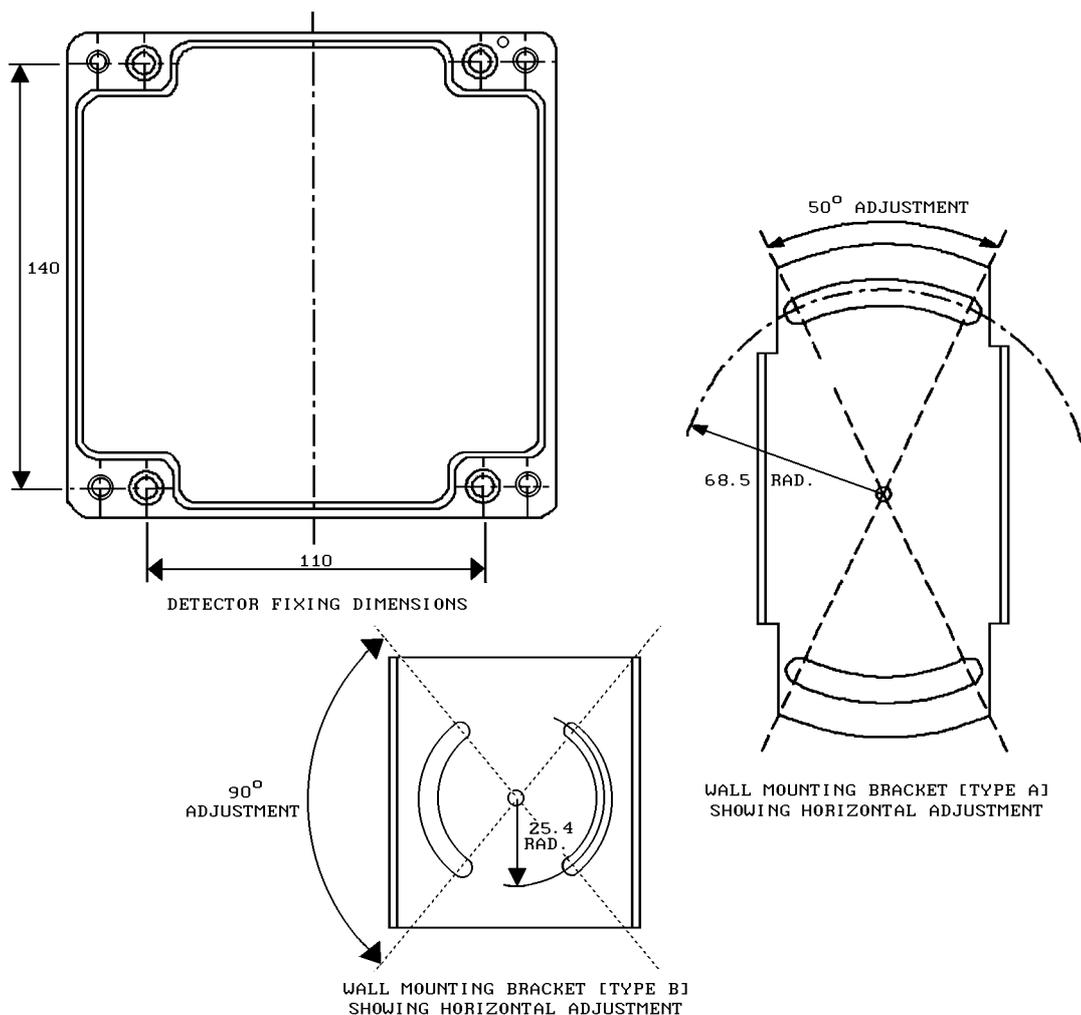

Fig. 1 Fixing Dimensions
- g) The detector may be secured directly to the fixing surface with two or more M6 bolts, studs or screws at the fixing centres shown in Fig. 1.
The detector mounting bracket is to be secured with two M8 bolts, studs or screws at the fixing centres shown in Fig. 1. A drilling template is provided to allow optimum selection of the fixing centres and the 2.5mm diameter, 3mm deep pivot hole.
The detector mounting bracket is to be secured with two M6 bolts, studs or screws at the fixing centres shown in Fig. 1. The radius of the fixing slots is 25.4 [1inch] for easy fixing to existing brackets/mounting points.